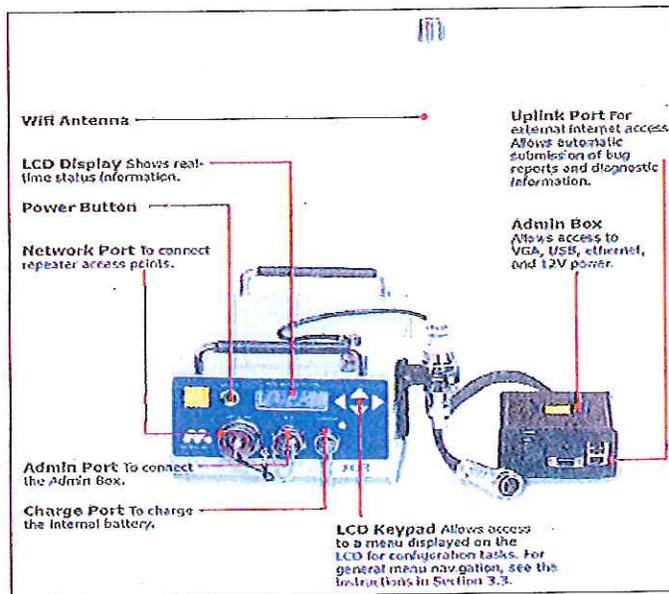

Figure 3. RHTT Networking Hardware.
d. All RHTT components are connected by either Wi-Fi or hardwire to the networking hardware (Figure 3).